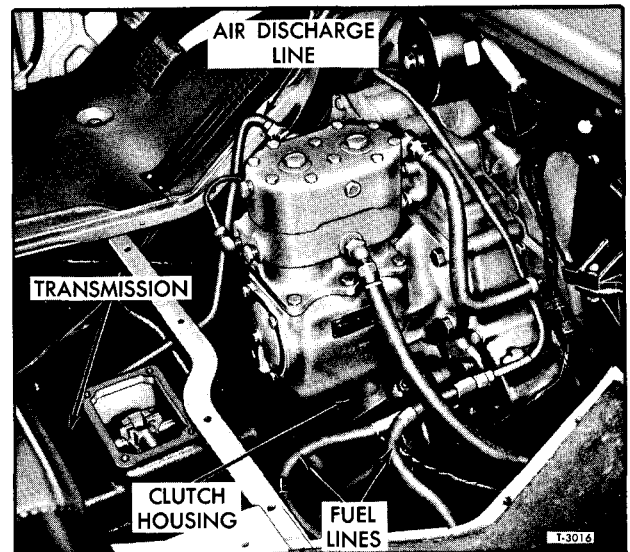

Figure 12—Access Cover and Floor Panel Removed from Cab (Typical)
Figure 12 is view inside cab with engine cover and transmission cover removed.
1. Drain cooling system. Remove engine access cover from inside cab (fig. 12).